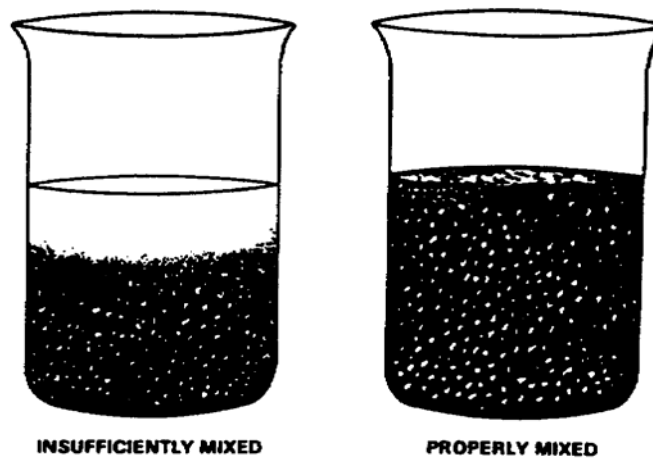

Figure 2. Contrasting appearance of flame fuel.
- Step 4. Sample the fuel and observe the particles of thickener. If the thickener begins to settle, mix the fuel longer. Figure 2 compares the appearance of insufficiently mixed fuel with that of properly mixed fuel.